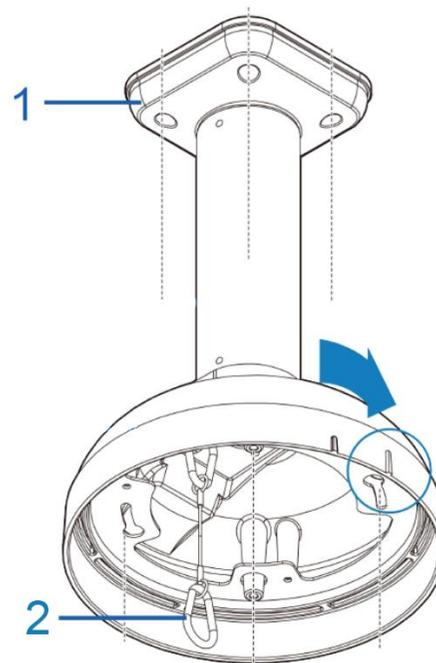

Figure 1
2. Align the holes on the mounting plate with the holes on the mounting pole base (1) (Figure 1) and hold both up to the ceiling.
5. Attach the safety lanyard to the 'hook' on the mount cover (2) (Figure 1) and the 'hook' on the camera base.
4. Attach the safety lanyard to the 'hook' on the mount cover (1) (Figure 1) and the 'hook' on the camera base.